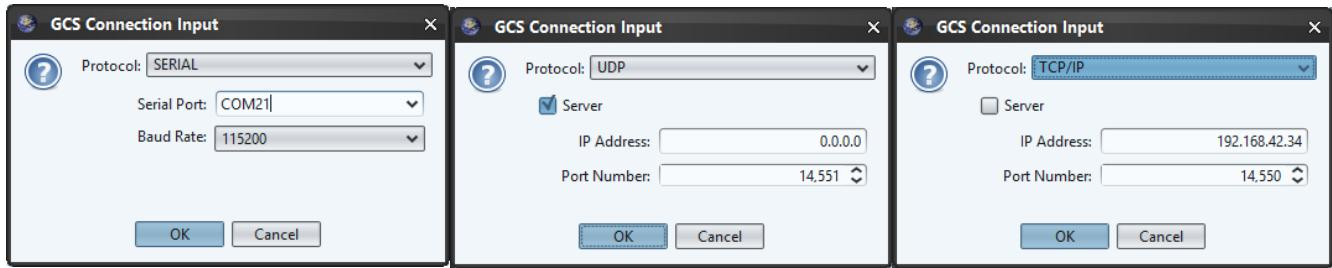

Figure 17 – Connection types supported for the Ground Control Station (GCS)
3. Select the protocol and input the required parameters for that protocol as shown in Figure 17. For a locally connected Pixhawk using serial over USB, select the 115200 baud rate and the correct COM port.